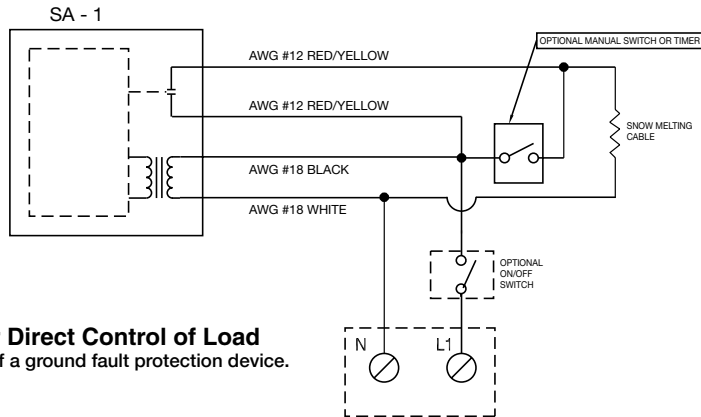
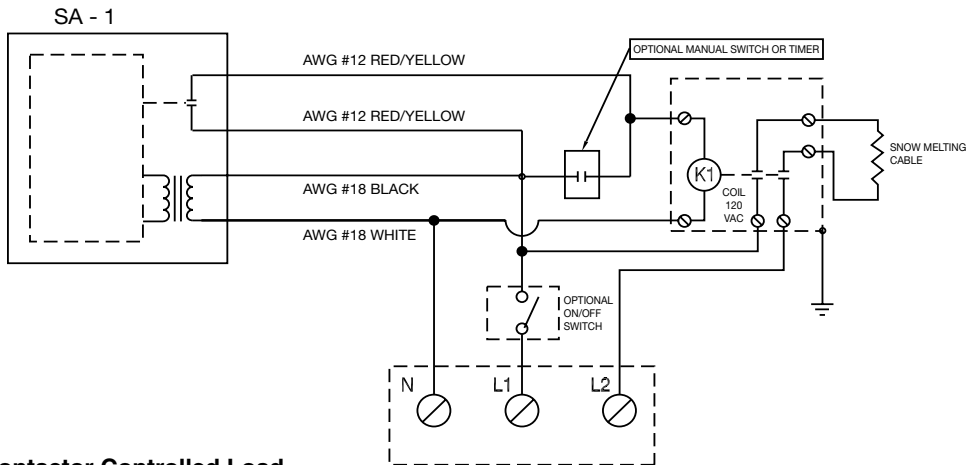

Figure 2 — Installation for Direct Control of Load
Figure 3 — Installation for Contactor Controlled Load
7. Do not connect more than 16 Amp load to the SA-1 (See Fig. 2 & 3). Risk of fire, electric shock or accumulation of snow can result from a larger cable or from multiple cables being connected.
2. The SA-1 can be connected to the building power supply as per Fig. 2 or Fig. 3. Before connecting the controller to the electrical power supply, consult the local, state or provincial, and national electrical code. The electrical code may require a Ground Fault Protection device to be used.